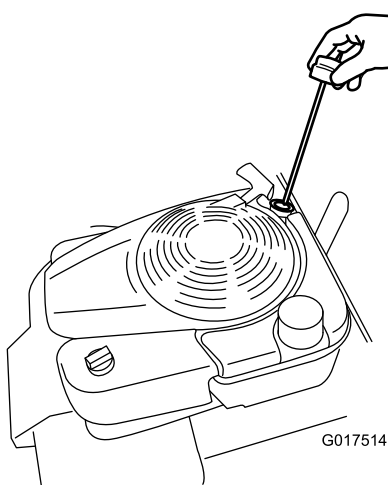

Figure 12
2. Retirez la jauge (Figure 12).